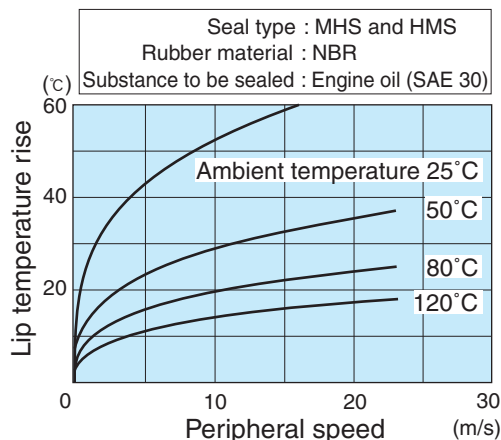

Fig. 1.6.4 Estimated lip temperature rise curves (reference)
- ② Determine the supposed ambient temperature
- ③ Find the point at which the ambient temperature curve meets the calculated shaft surface speed in Fig. 1.6.4
- ④ Read the ordinate value of the point
- ⑤ Obtain the estimated lip temperature by the sum of the ordinate value and ambient temperature
In Fig. 1.6.4, the cross of the curve for ambient temperature 80 °C and peripheral speed 10.5 m/s indicates that the lip temperature rise will be 20 °C.